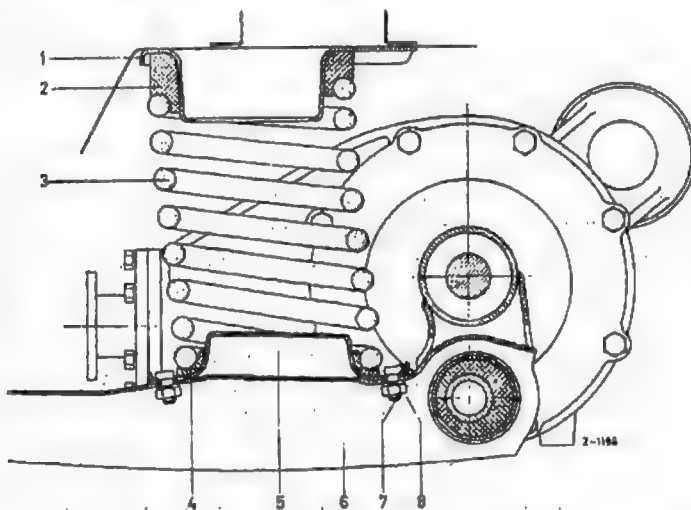

Fig. 40-3/3
The rear wheel camber is adjusted by turning the lower spring plate (5) and by installing upper rubber mountings (2) of varying thickness. (Fig. 40-3/3).